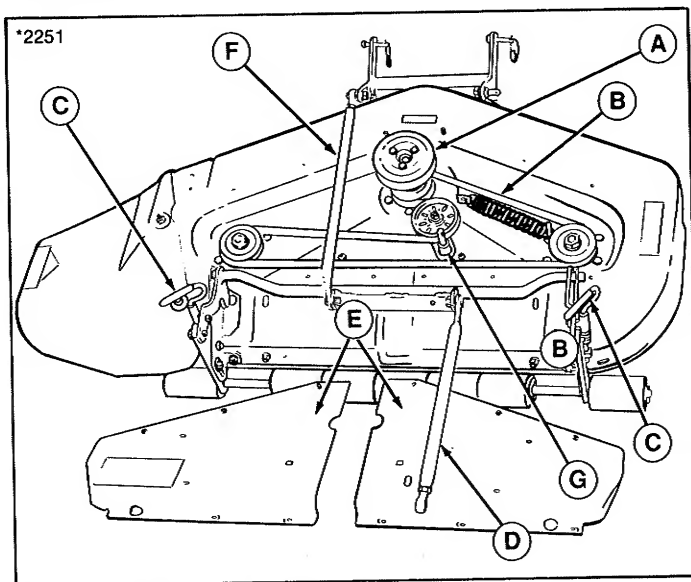

**Figure 20. Drive Belt Replacement**
3. Remove the capscrew (C, figure 20) and remove the belt guard assembly (B).
4. Remove the two capscrews (D) and the taptite screw (E) to remove the fan guard assembly.
6. Reinstall the fan guard with the capscrews (D) and the taptite screw (E).
8. Reinstall the belt guard (B) so the bracket on the back side almost touches the pulley hub. Hold the guard in place and tighten the capscrew (B).